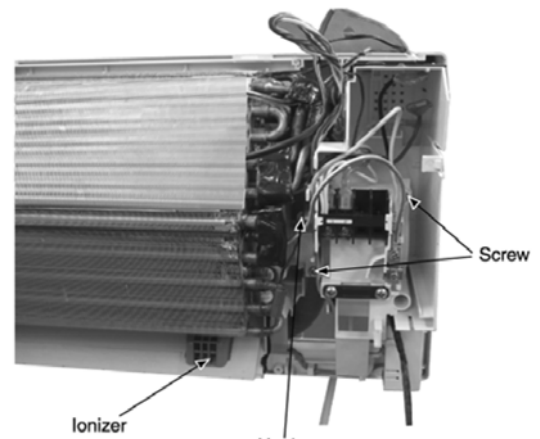

Fig. 7
- Remove indoor pipe sensor and air intake sensor from the evaporator. (Fig. 7)
- Remove the earth wire from the evaporator (Fig. 7)
- Remove 2 screws on the right and 1 screw at the left side of the control board. (Fig. 7)
- Press down the hook on the left side of control board. (Fig. 7)
- Then pull out the Control Board Complete from the unit. (Fig. 7)